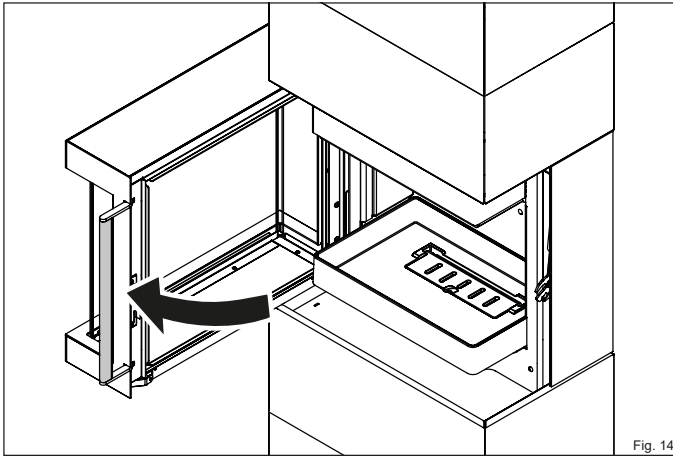

Fig. 14
- ▶ **Open the firebox door (Fig. 14).**
- ▶ **Open the firebox door. (Fig. 14).**